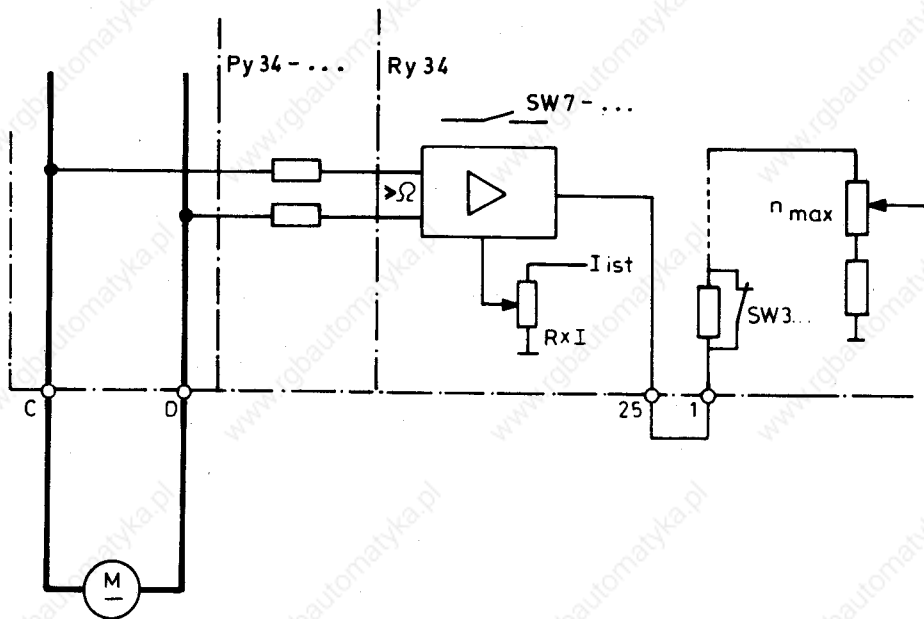

Fig. 5.3.2.1.
- Connection as in Fig. 5.3.2.1